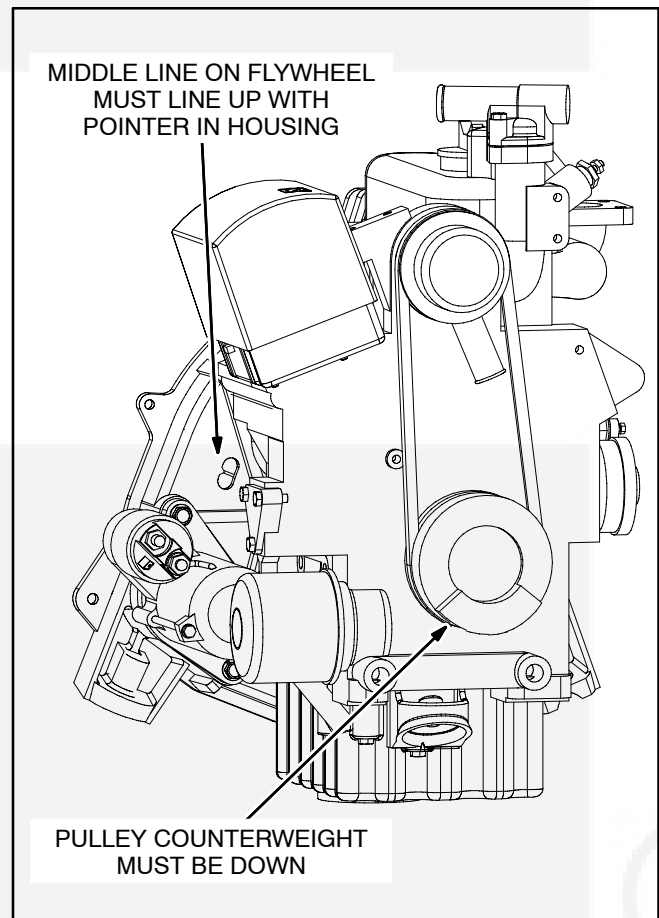

FIGURE 11-3. ROTOR-CRANKSHAFT ALIGNMENT
2. Mate the rotor to the crankshaft such that the middle line on the back of the flywheel lines up with the pointer in the window in the flywheel housing. See Figure 11-3.